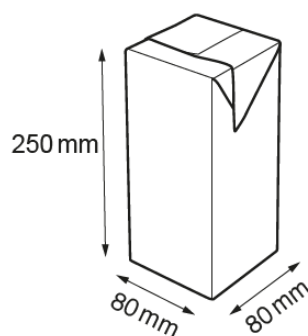

Fig. 2.3
(b) Fig. 2.3 shows another fruit juice carton that is made by the manufacturer.
- (i) Calculate the volume of fruit juice the carton in Fig. 2.3 could contain. Give your answer in cm^3 .
Given that 1 ml (millilitre) equals 1 cm^3 , state if the carton shown in Fig. 2.3 would hold 1.5 or 2 litres of fruit juice.